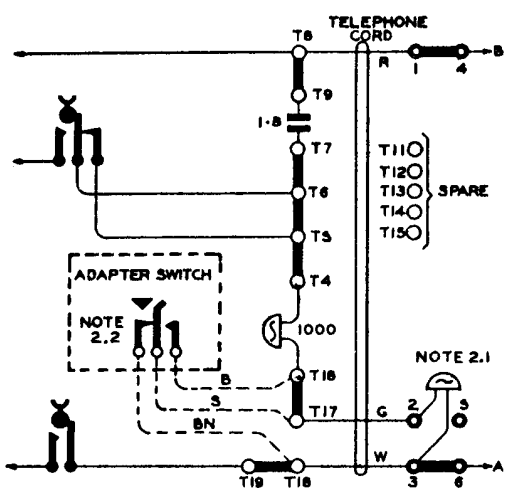

FIG. 2
2.1 Extension Bell. Remove strap and connect extension bell between block terminals 2 & 3 (Fig. 2).
2.2.1 Fit adapter switch HC 140 (locking) with label HC 142.... (colour) to mounting bracket in telephone. Remove dummy button from case. Connect leads as shown - - - - in Fig. 2.
2.2.2 To silence the telephone bell when the extension bell is switched on move the B adapter switch wire from T16 to T4 in Fig. 2.